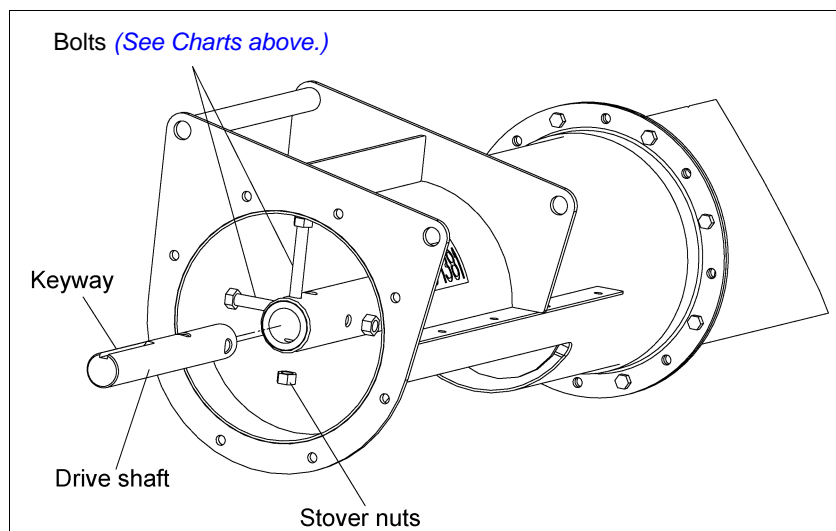

Figure 4G
- A. Insert the drive shaft into the opposite end of flight with keyway facing outward. Align the holes in the shaft and secure with grade 8 bolts and stover nuts. (See Chart below and See Figure 4G.)